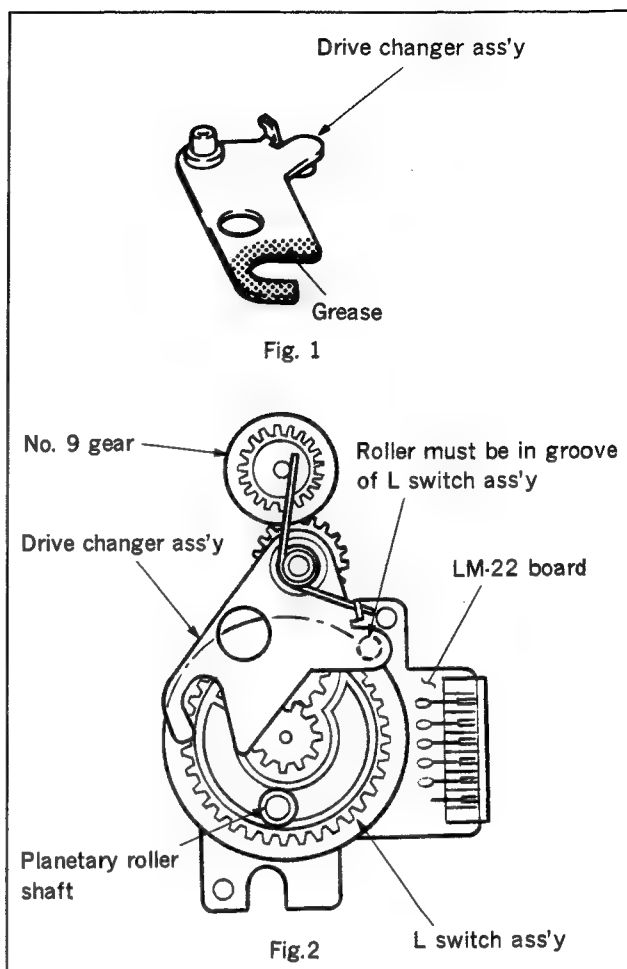

Fig. 4-21-2 L switch ass'y installation
- 2) Apply 1/2 a drop of oil to the planetary roller shaft shown in Fig.4-21-2.